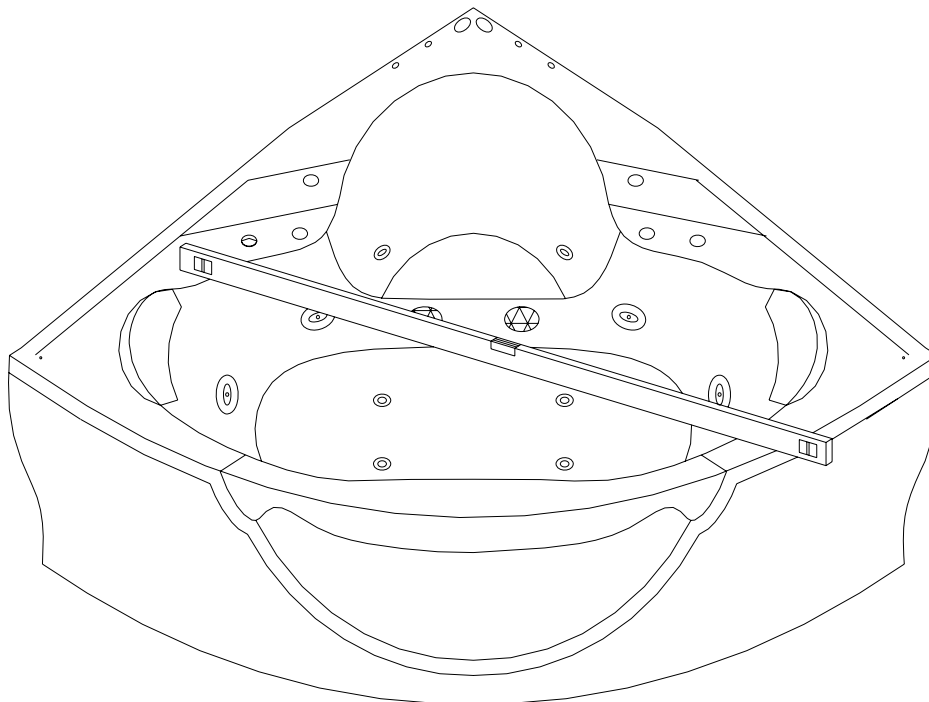

Fig. 2
1. Adjust the bottom-feet ---move the bathtub to the suitable place, adjust the bottom of the screw, make it down to the ground. (As the Fig.2)